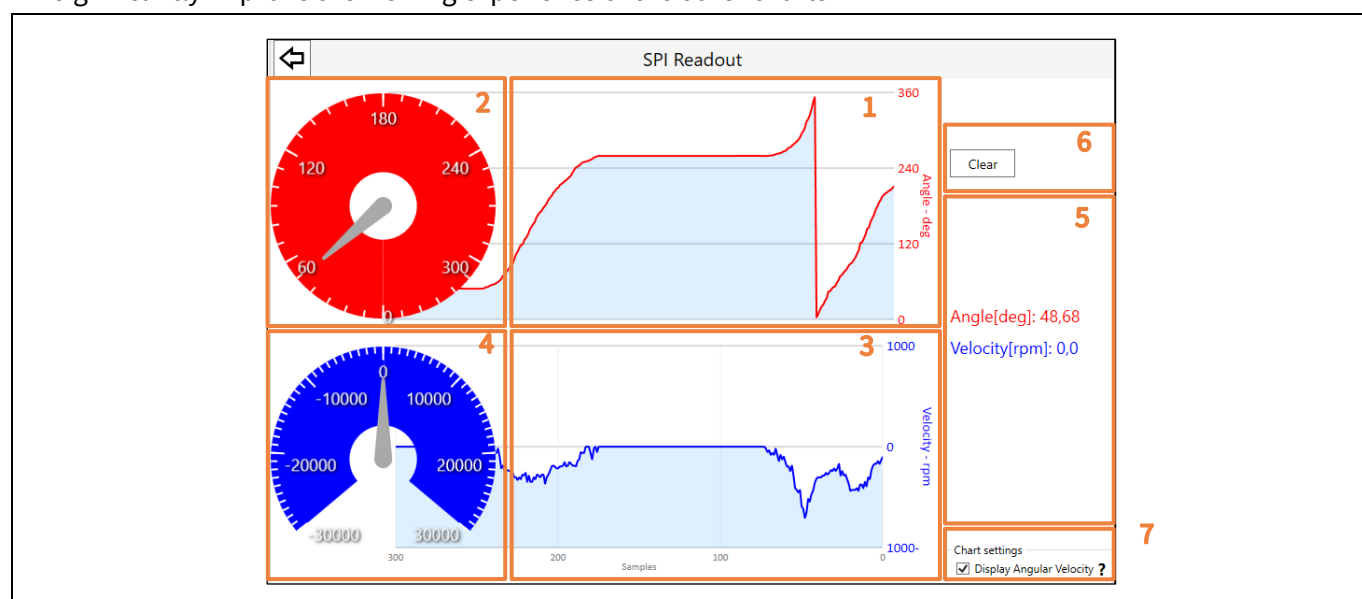

Figure 51 SPI Readout view – Angle & Speed view
1. Angle & Speed data display in this mode includes the following UI elements (Figure 51)